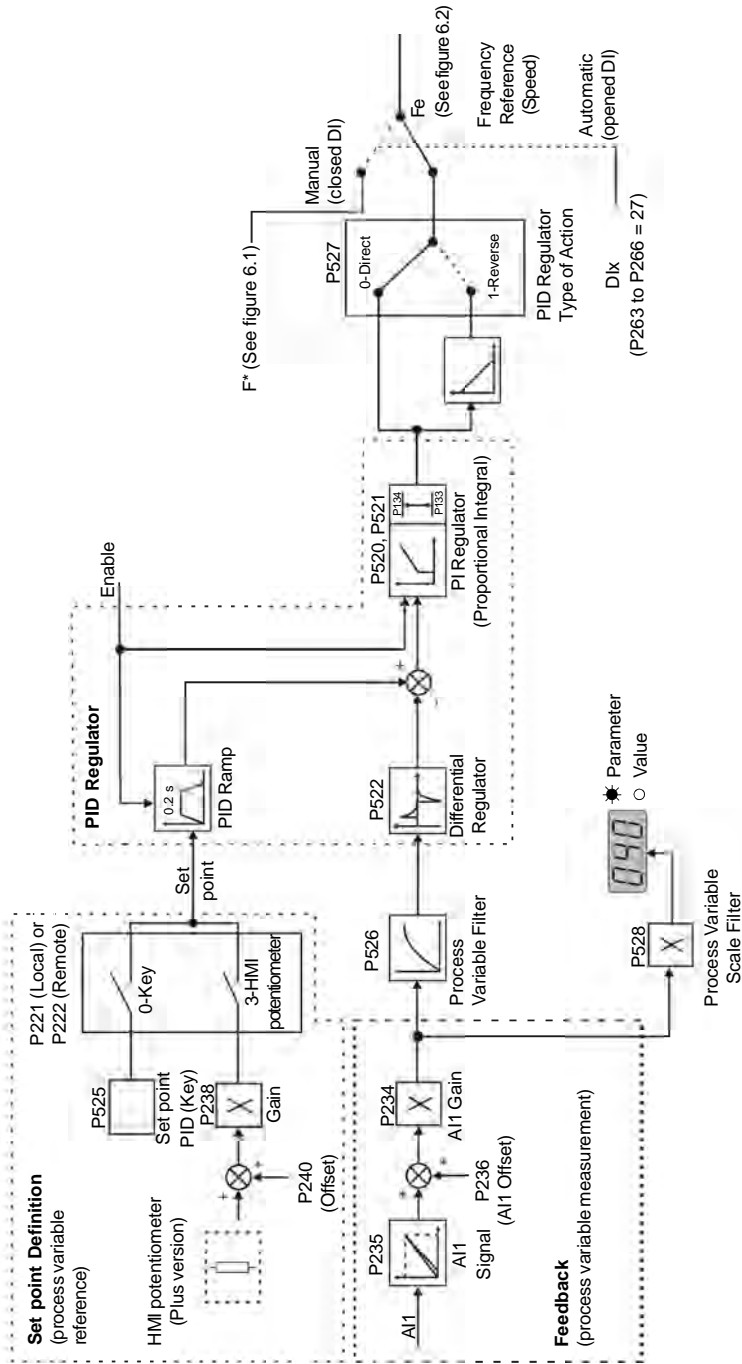

Figure 6.23 - PID regulator function block diagram
- ☑ Figure 6.23 shows a schematic representation of PID regulator function.